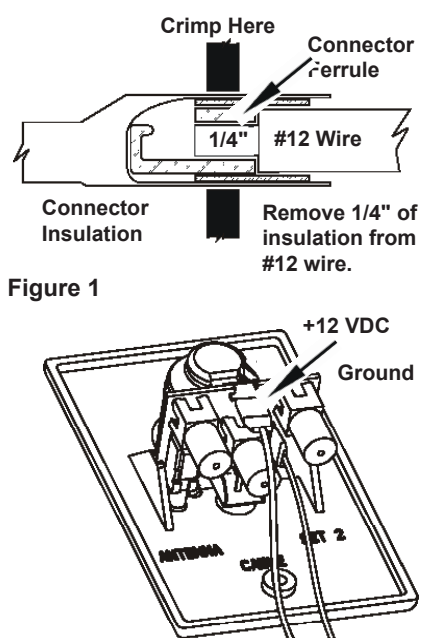

Figure 1
STEP 3. Make +12 volt connection to wall plate/power supply Figure 2. Install terminals on wires from +12VDC source as shown in Figure 1. Crimp terminals with Craftsman type 4 crimping tool or equivalent. Push wires onto tabs on terminal board as shown in Figure 2. If in doubt as to the polarity of the wires, connect them temporarily to tabs on circuit board and press switch on front of outlet. If light comes on, polarity is correct. See Figure 3.